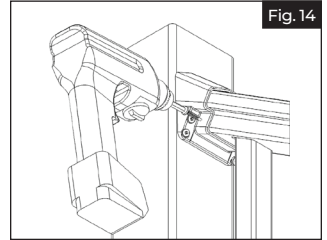

Fig. 14
- b. Pre-drill one side (outside of the stair rail installation) of the top rail bracket with $\frac{5}{32}$ " drill bit. Hole should be oriented as shown (Fig 14). Drive #10 x 1" pan head square drive screw through bracket and rail.